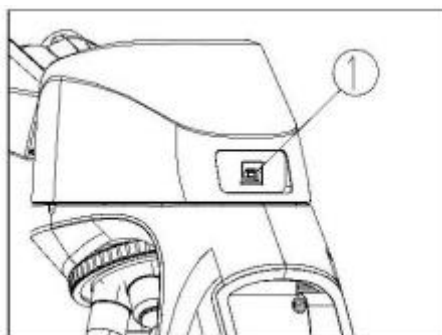

Figure 14
2. Adjust the microscope and observe using the binoculars. Once the image is clear, connect the digital observation head's USB interface (①) to the computer using the video data connection cable. Use professional software to view and capture the image. (See Fig. 14)